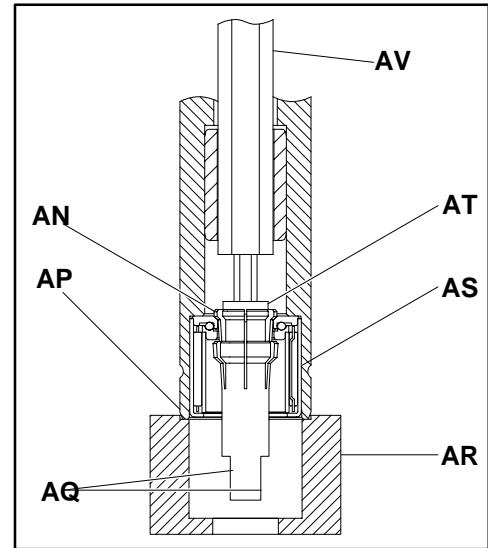

Figure 31
While holding the hex key wrench extension tool (AV of Figure 31), part number † 25-08 or ◇ 25-08A, rotate bearing removal tool using flats (AQ) to tighten the bearing removal tool's tapered screw (AT) until the flair (AN) of the tool is completely spread open behind the bearing (AS).
1. Hold the pulley (BA) in an upright position with "V" block or other means. Support the bottom end of pulley (BA) using the bearing anvil/sleeve removal tool (AR of Figure 31), part number † 25-09.